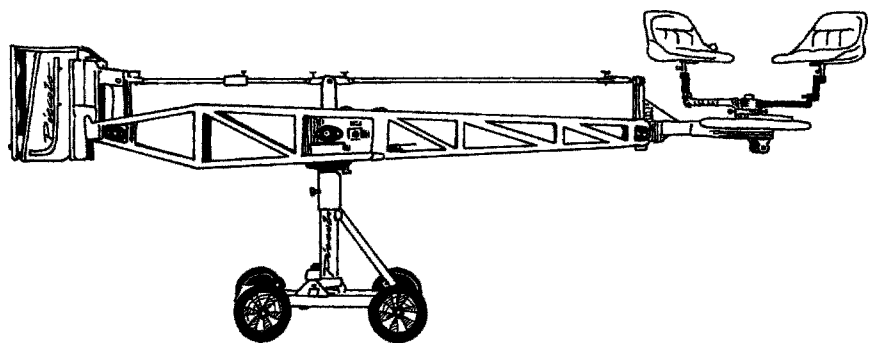

Figure 10.21 Piccolo Crane (Egripment).
- **Piccolo Crane** (Figure 10.21)